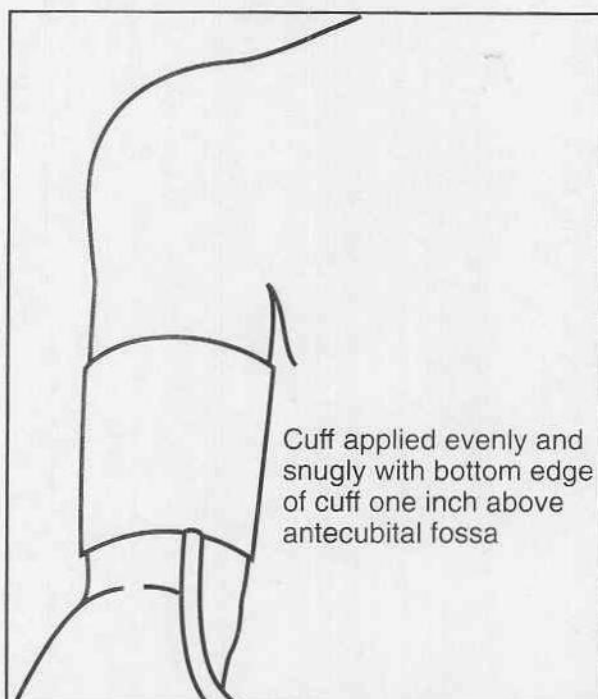

Figure 2-22. Cuff placement
- 2 Place the cuff on the limb. If you are placing the cuff on an arm, it should be placed at the same level as the heart (see Figure 2-22 on page 2-47). Add 1.9 mmHg to the cuff measurement for every inch the cuff is above the heart level. If you are placing the cuff on a thigh, subtract 1.9 mmHg from the measurement for every inch the cuff is placed below the heart level. (If the cuff is on an arm and below heart level, you should also subtract 1.9 mmHg for every inch the cuff is below the heart level.) The cuff should fit snugly, but not be uncomfortable. The hose must not be kinked or pinched.